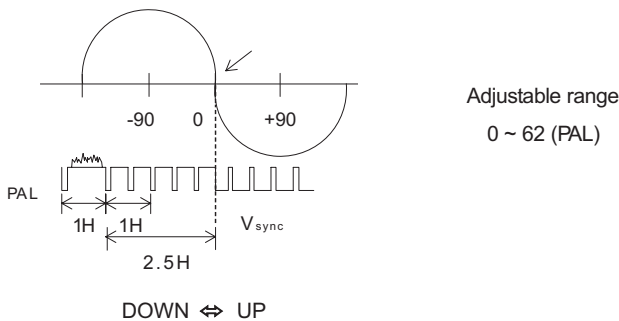

Fig.9-4 PHASE SHIFT
- 3. On menu, the vertical phase can be adjusted byturning on the SW up or down. Refer to Fig.9-4.